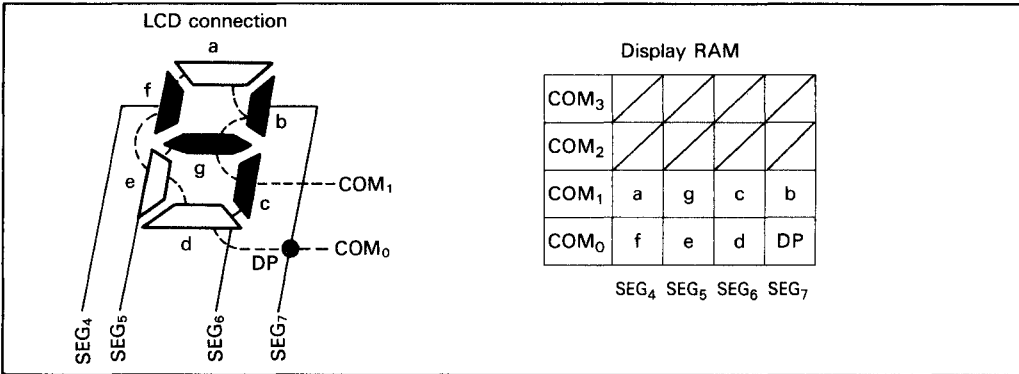

Figure 5. Example of Correspondence between LCD Connection and Display RAM (1/2 Duty, HD61604)
- (2) **1/2 Duty Drive:** In the 1/2 duty drive, the columns of COM₀ and COM₁ of display RAM are output in time sharing. The columns of COM₂ and COM₃ are not displayed (figure 5).